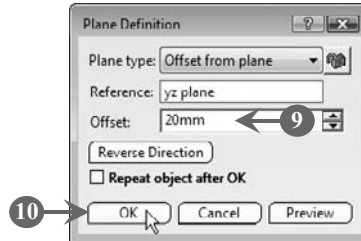

FIGURE 5.70
9. Enter a value representing the offset from the reference plane ( $yz$ -plane) in the **Offset** box (Figure 5.70). In our case, we continue with the default value, **20 mm**.
10. Click the **OK** button to close the **Plane Definition** dialog box, as shown in Figure 5.70: